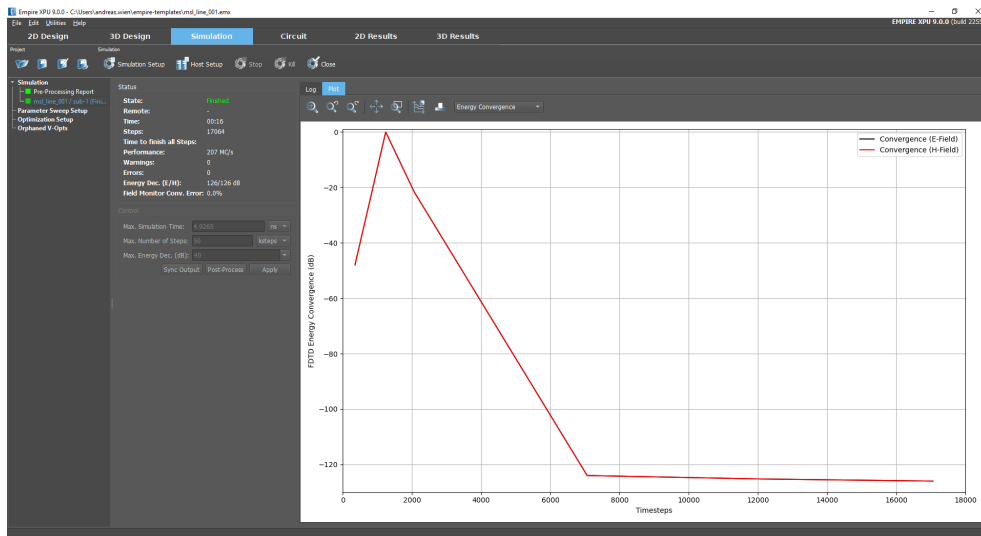

Figure 3.3.: EMPIRE XPU™ Standard Template simulation convergence
- Check: If the **Simulation** Tab shows the energy convergency plot over timesteps at the end, see Figure 3.3, the simulation kernel is working